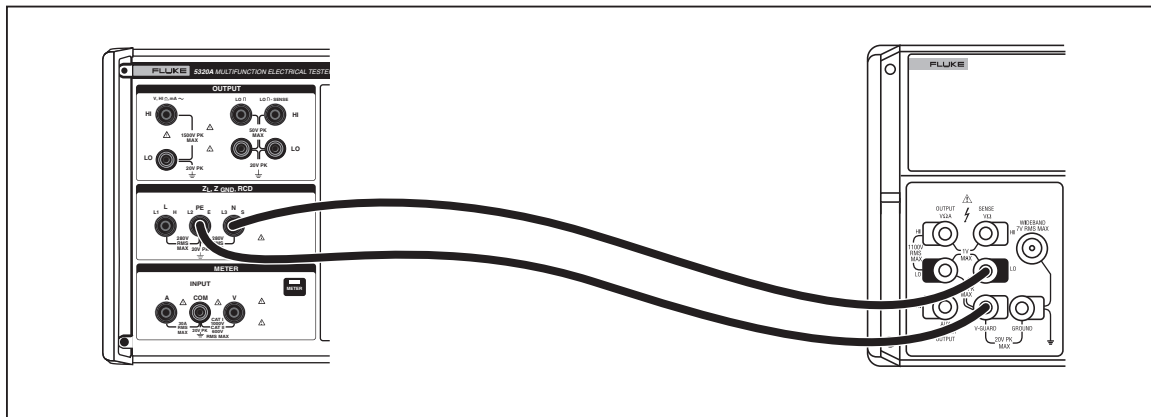

Figure 3-7. Ground Bond Resistance Meter Current Calibration Connections
1. Connect the current output of the multifunction calibrator to the PE and N terminals as shown in Figure 3-7.